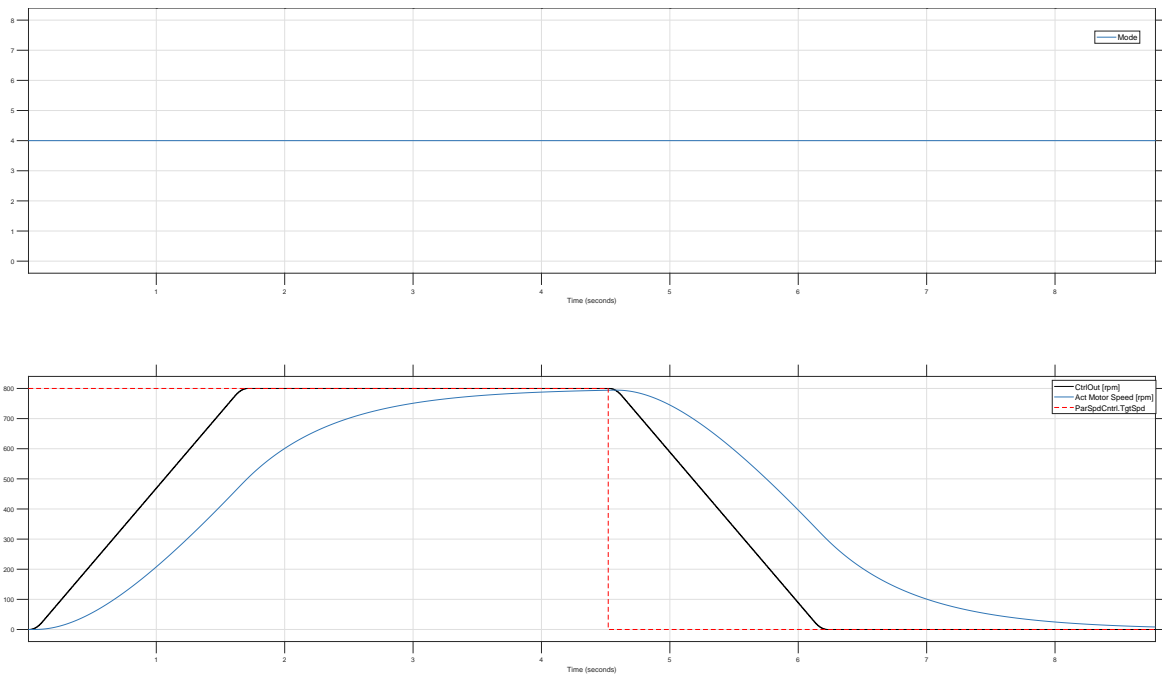

Figure 13: Frequency Drive with poorly set controller parameters. Large Lag Error and no Steady-State Accuracy.
1. Issue of Motor Speed Control in figure 13: